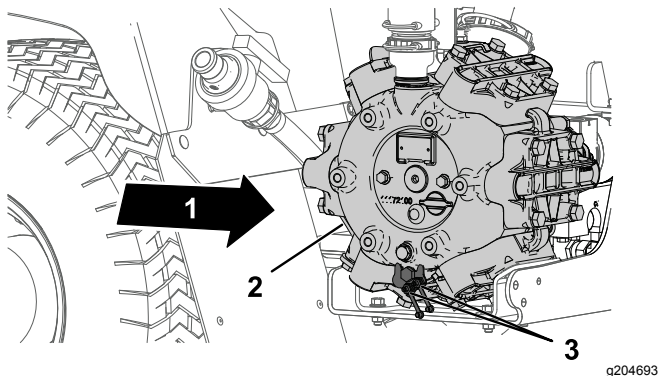

Figure 62
1. Wipe the 2 remote grease fitting clean (Figure 62).
2. Pump grease into the remote grease fitting (Figure 62).